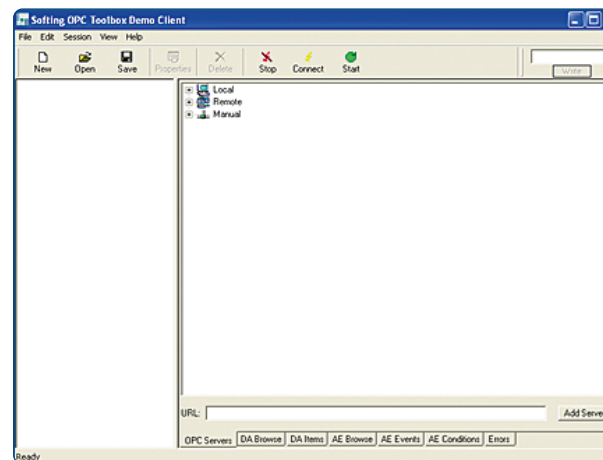

Figure 64: OPC Classic Demo client.
3. Once the installation is completed, run the OPC Demo Client. If the installation was successful, the following screen is displayed (Figure 64).